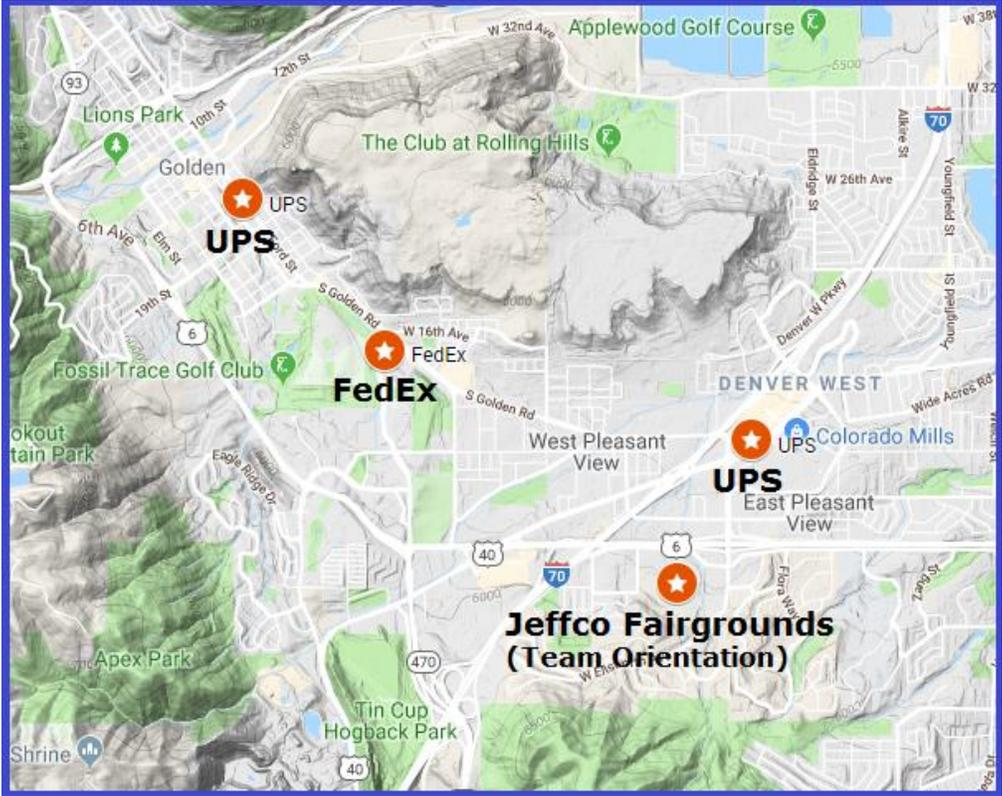

Figure 2: Golden, Colo. Area Map with Key Locations
- 1) **Utility vehicle drop off** – Teams are permitted to bring one (1) passenger vehicle to the test site to deliver equipment and support their operations. These vehicles will park near the team trailers. Teams are encouraged to reserve a sport utility vehicle for easier access to the site due to the steep unpaved access road. Each team will be given one parking pass at Team Orientation for onsite parking at Edgar Experimental Mine.
- 2) **Shipping** – Teams are responsible for shipping their equipment to an outside provider as well as pickup and transfer of the equipment to and from the Edgar Experimental Mine. Due to liability reasons, Edgar Experimental Mine staff will be unable to receive or sign for any team shipments. Local shipping centers are listed below (see also Figure 2) for your convenience. DARPA does not promote or prefer any shipping provider below.